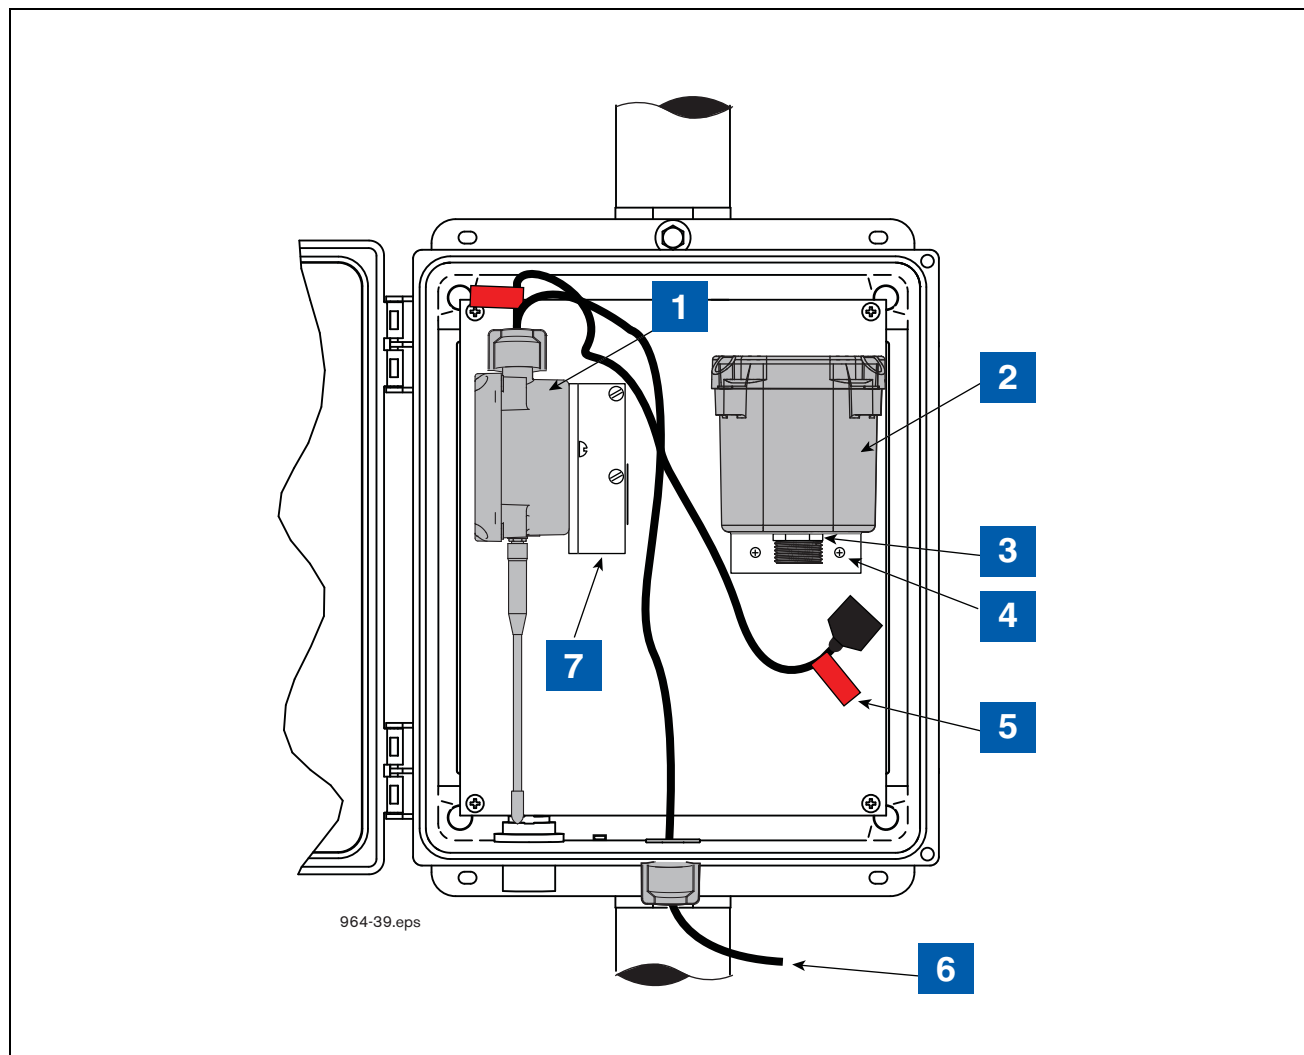

Figure 16. Example CCVP transmitter/battery pack installation in vent stack enclosure
6. Get the thin hex nut from the kit and screw it onto the battery housing cable connector threaded fitting until snug (see item 3 in Figure 16).
7. Attach the battery housing/bracket assembly to the back mounting surface of the enclosure using two #10 taptite screws from the kit (see item 4 in Figure 16).
LEGEND FOR NUMBERED BOXES IN Figure 16